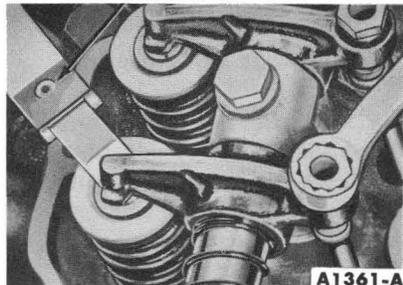

FIG. 19—Valve Lash Adjustment
With the engine idling, set the valve lash (Fig. 19) using a step-type feeler gauge only ("go" and "no go").
4. Adjust the intake and exhaust valve lash for No. 1 cylinder (Fig. 19). The preliminary (cold) intake and exhaust valve lash is 0.016 inch. Use a step-type feeler gauge (“go” and “no go”) to adjust the valves.